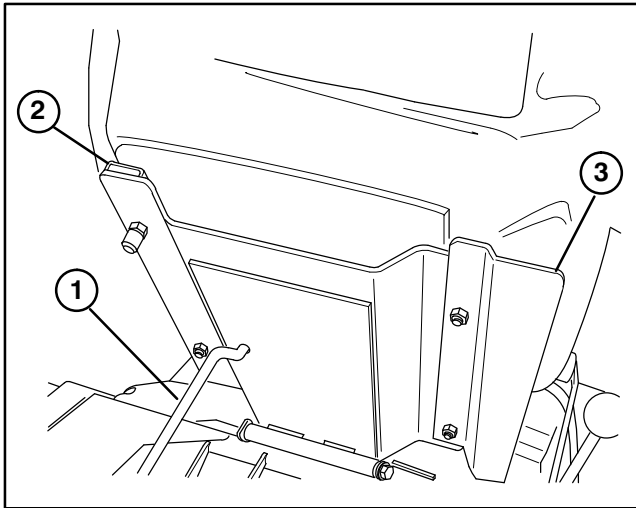

Figure 3
MOUNT SEAT (Fig. 3)
3. Secure seat, seat panel and seat slides to seat support with 5/16-18 locknuts supplied in loose parts. Seat cover to be mounted on right side, positioned as shown in fig. 3.